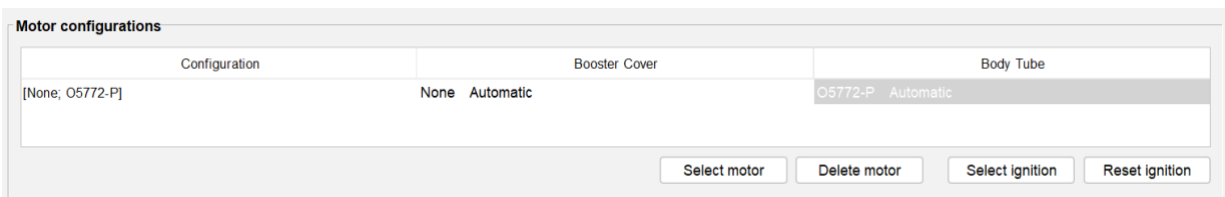
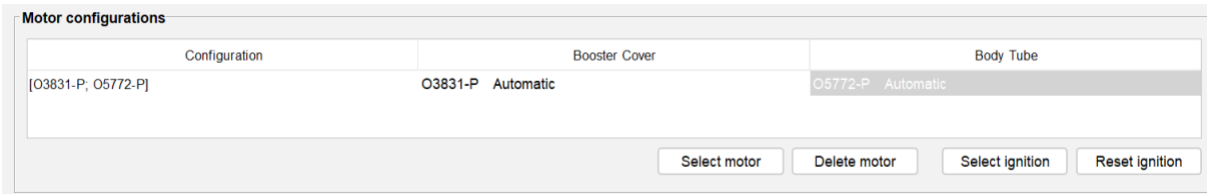

Figure 4: Motor configurations tab after selecting a booster motor.
Figure 5: Motor configurations tab after selecting a booster and a sustainer motor.
- Restart the OpenRocket software.** If you do not restart OpenRocket, you will not be able to find the ENG files you just added. After the software has been restarted, reopen the ork file by following the steps in Step 1. Next, select [Motors & Configuration] → [New Configuration]. Then, select the motor that you want to use for the booster. Ensure that the *Ejection charge delay* option is set to *Plugged*. After all correct options have been selected, press [OK]. If everything has been correctly selected, the *Motor configurations* tab should look similar to Figure 4.
- After the booster motor has been selected, the sustainer motor needs to be selected. Under the *Booster Cover* tab shown above in Figure 4, select where it says [None Automatic] so that is highlighted blue, then press [Select motor]. Next, select the motor that you want to use for your sustainer. Your screen should look similar to Figure 5 below if everything was done correctly.